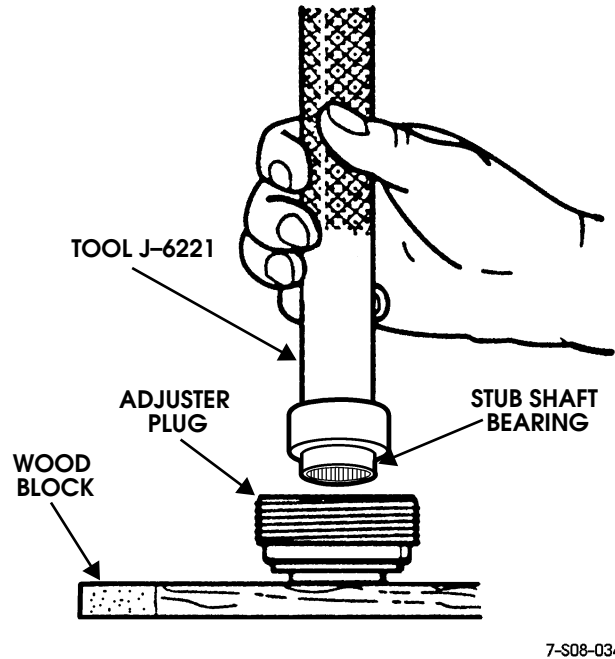

Figure 8-61: Installing Stub Shaft Bearing and Seals In Adjuster Plug
2. Install stub shaft bearing in adjuster plug with tool J-6221 (Figure 8-61). Place adjuster plug on wood block as shown.